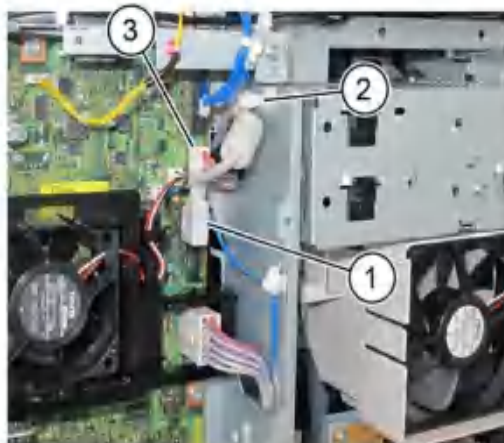

Figure 7 USB cable
8. If the machine has a fax installed, disconnect the connection between the connector and the USB cable, **Figure 7**:
- Disconnect the USB cable (1).
- Release the USB cable clamp (2).
- Disconnect the connector (3).